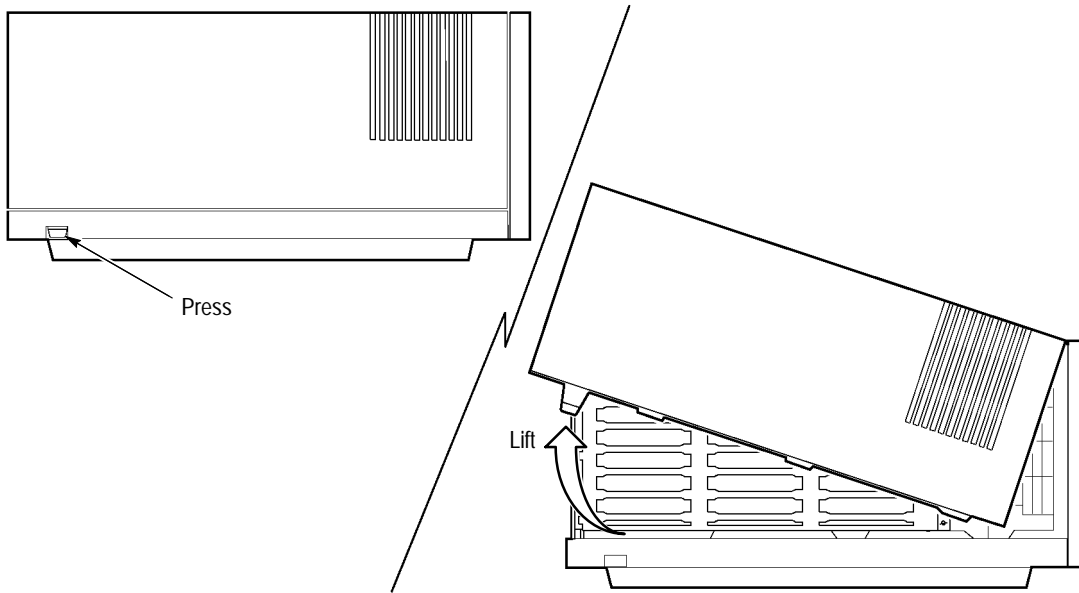

Figure 3-2: Removing the Mainframe Top Cover
3. Press the plastic latches on the left and right lower-rear sides of the cover and lift the cover from the back (see Figure 3-2).